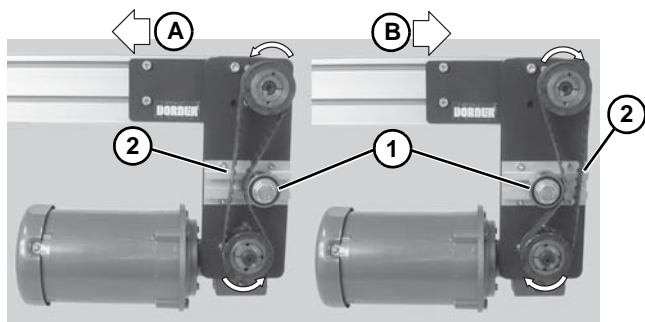

Figure 13
9. Depending on conveyor belt travel (direction A or B), locate timing belt tensioner (**Figure 13, item 1**) as shown. Tension timing belt to obtain 1/8" (3 mm) deflection for 6 lb (3 Kg) of force at timing belt mid-point (**Figure 13, item 2**). Tighten tensioner screw to 110 in-lb (12 Nm).
3. Depending on conveyor belt travel (direction A or B), locate timing belt tensioner (**Figure 13, item 1**) as shown. Tension timing belt to obtain 1/8" (3 mm) deflection for 6 lb (3 Kg) of force at timing belt mid-point (**Figure 13, item 2**). Tighten tensioner screw to 110 in-lb (12 Nm).
5. Depending on conveyor belt travel (direction A or B), locate timing belt tensioner (**Figure 13, item 1**) as shown. Tension timing belt to obtain 1/8" (3 mm) deflection for 6 lb (3 Kg) of force at timing belt mid-point (**Figure 13, item 2**). Tighten tensioner screw to 110 in-lb (12 Nm).